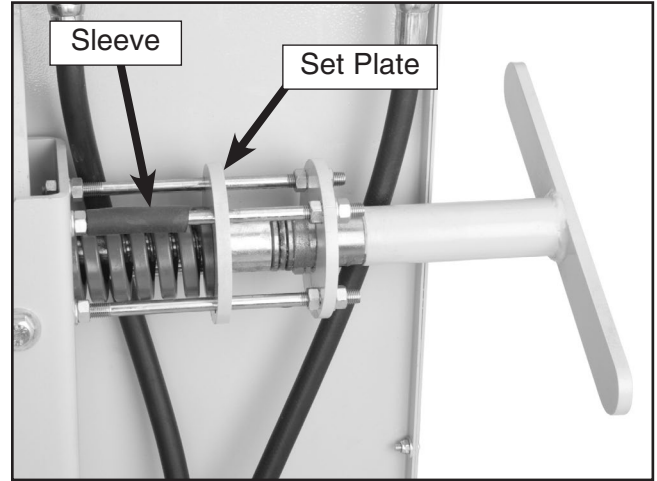

Figure 22. Blade tensioning handle.
7. Hand tighten the handle until the set plate comes in contact with the sleeve shown in **Figure 22**.